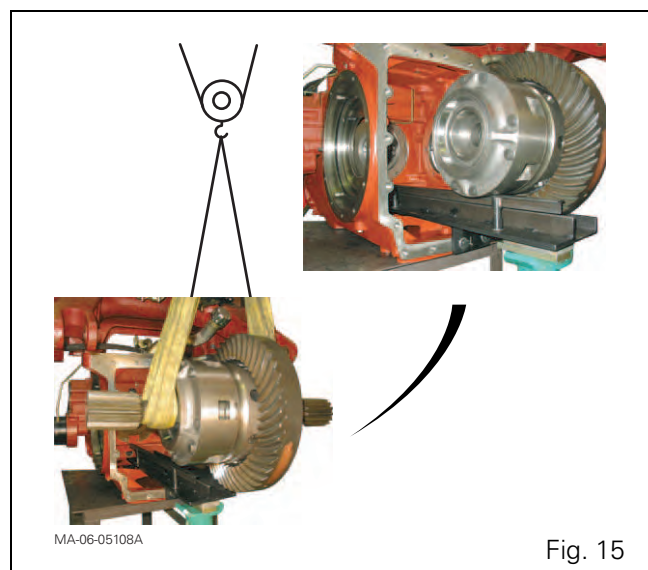

Fig. 15
68. Remove the ring gear/differential assembly through the rear opening of the centre housing (Fig. 15).